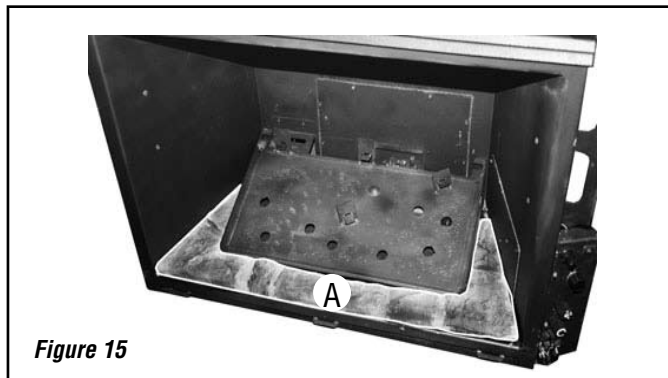

Figure 15
1. Start with the front bottom panel A. Set the front bottom panel in place with detail side facing up as shown. See *Figure 15*.